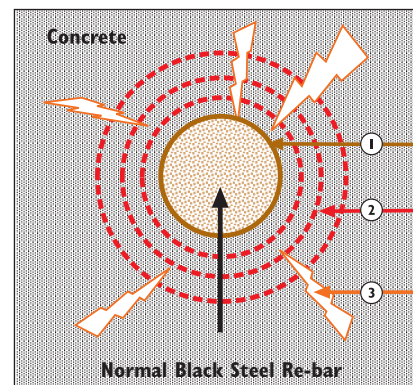

Figure 1.
- ◆ Once the corrosive elements have penetrated through to the reinforcing steel, corrosion "rust" will intensify (see 1 in figure 1).
- ◆ The greater volume sets up tensile stresses within the concrete surrounding the reinforcing bars (see 2 in figure 1).
- ◆ The stress buildup leads to "cracking" of the concrete, which in turn allows greater environmental access to the steel and an increase in the rate of corrosion (see 3 in figure 1).